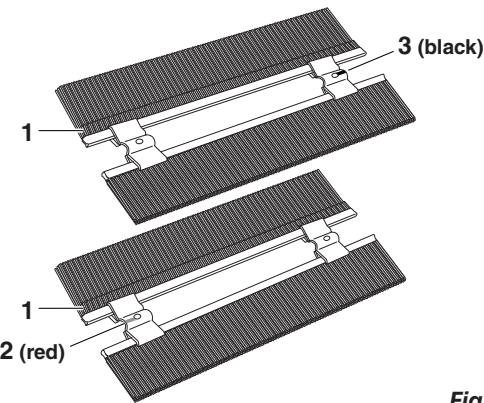

Figure 1
STEP 1: (SEE FIGURE 1)
- Locate the brushes (1) and identify the brush retainer marked red (2) and black (3).